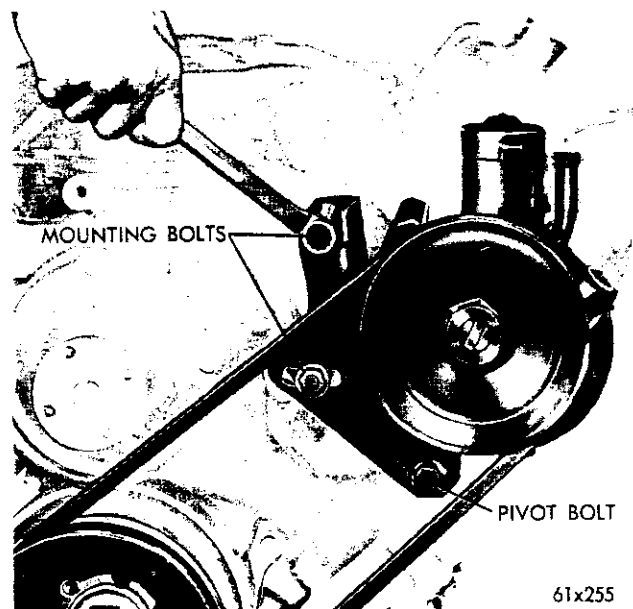

Fig. 64—Loosening the Pump Bracket Mounting Screws
- (1) Loosen the adjustment bracket to engine mounting bolts (Fig. 64).